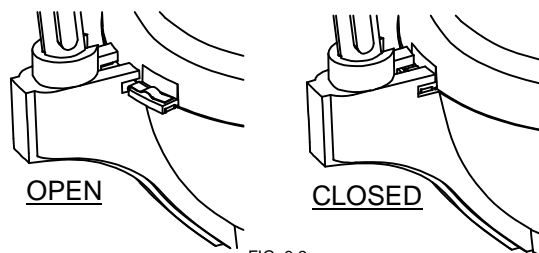

FIG. 6-2
5. Connect power quick connector to existing incoming connector. Place and turn clockwise lower slipfitter cap into place. Follow FIG 6-2 to ensure cap is secured.